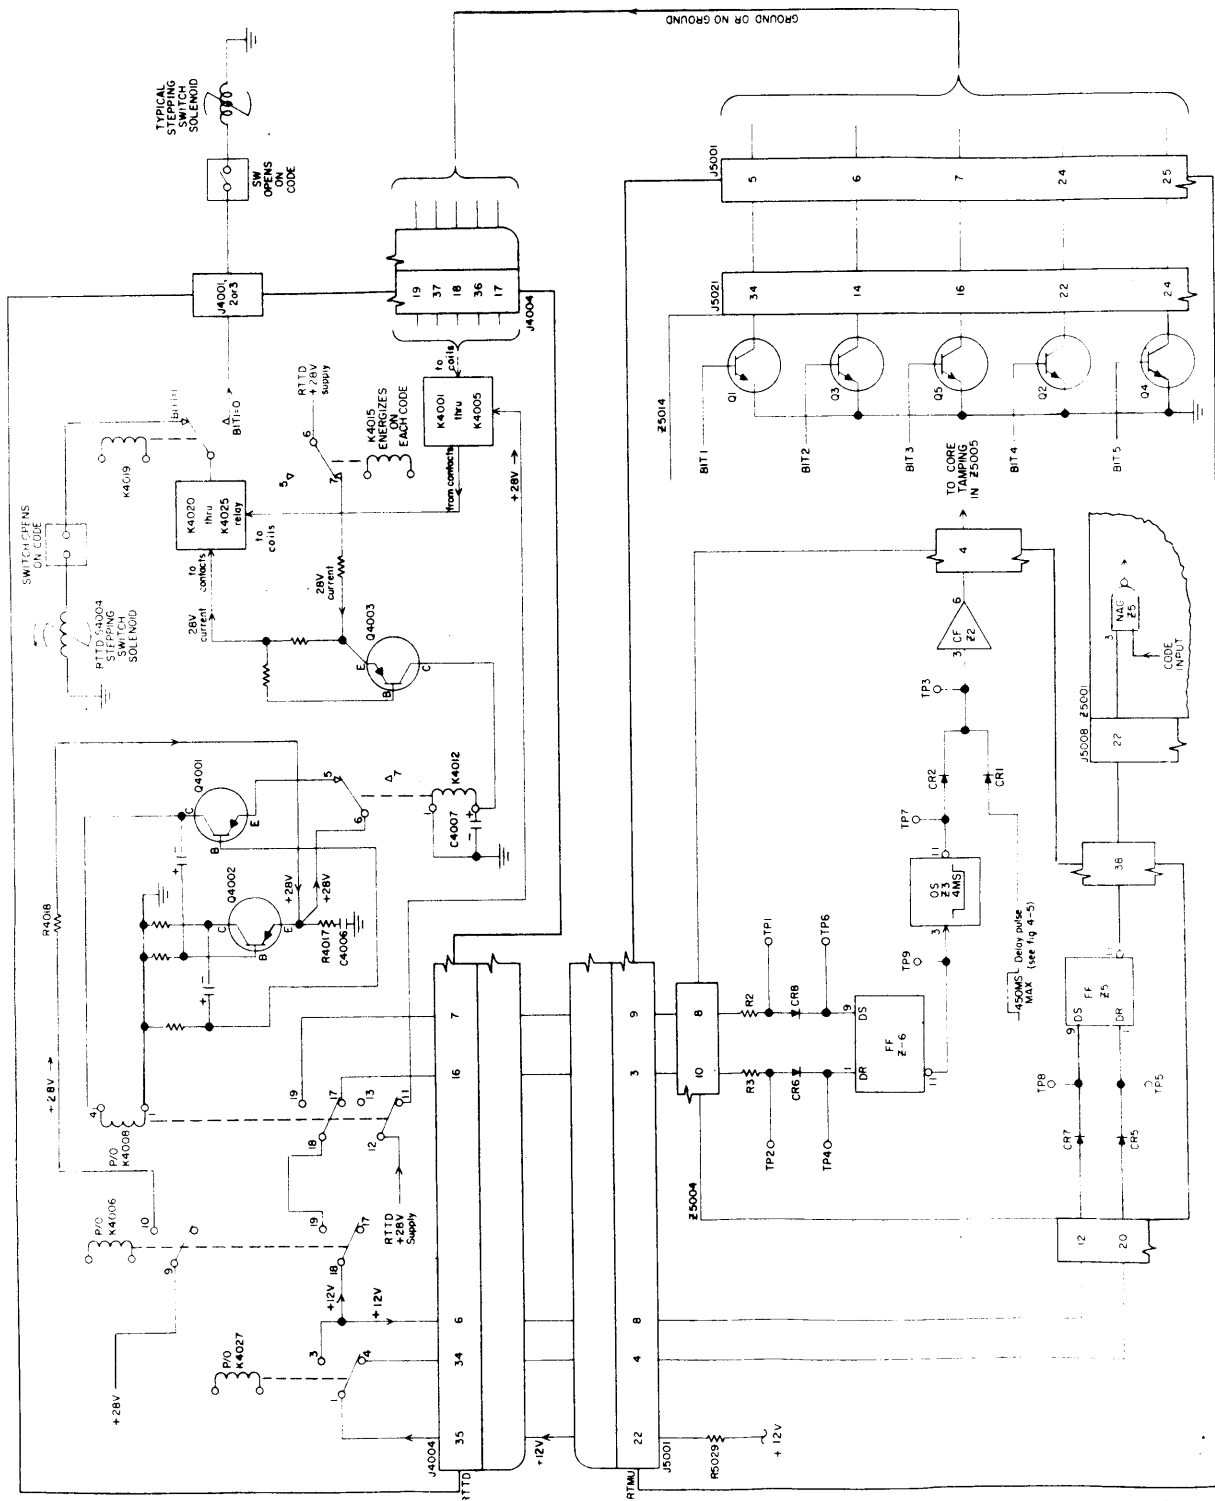

Figure 4-6. Simplified Schematic, Code Transfer from RTMU to RTTD
When the high-frequency oscillator of Continuous RF Tuner HFRR and Control Synthesizer and Standard HFSR are synchronized, the operate path of relay K4009 in the RTTD is opened via energized relay K3001 in the HFSR. Relay K4009 of the RTTD de-energizes and opens one of the two operate paths of relay K4027 (de-energized relay K4006 opened the other operate path). Relay K4027 de-energizes and: (1) shuts off the RTTD power supply (refer to RTTD manual); (2) de-energizes relay K5002 of the RTMU; (3) applies +12 vdc to diode CR5 of Advance Circuit Z5004 thus resetting flip flop Z5. (See figure 4-6)